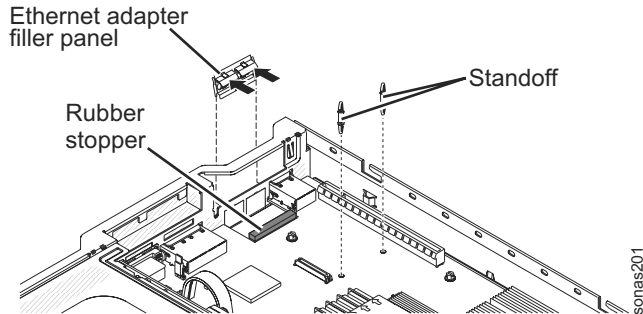

Figure 15. Location of the Ethernet adapter filler panel on the chassis
5. Remove the Ethernet adapter filler panel on the rear of the chassis (if it has not been removed already). See Figure 15.